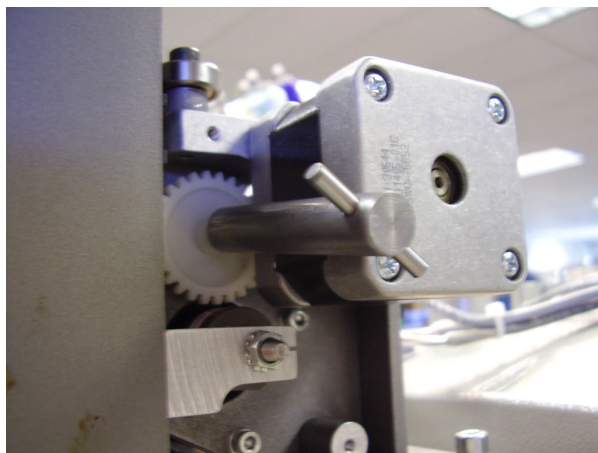

Figure 1
3. Position the socket of the tool so that it engages the end of the Feeder Drive Gear Shaft. See **Figure 1**.